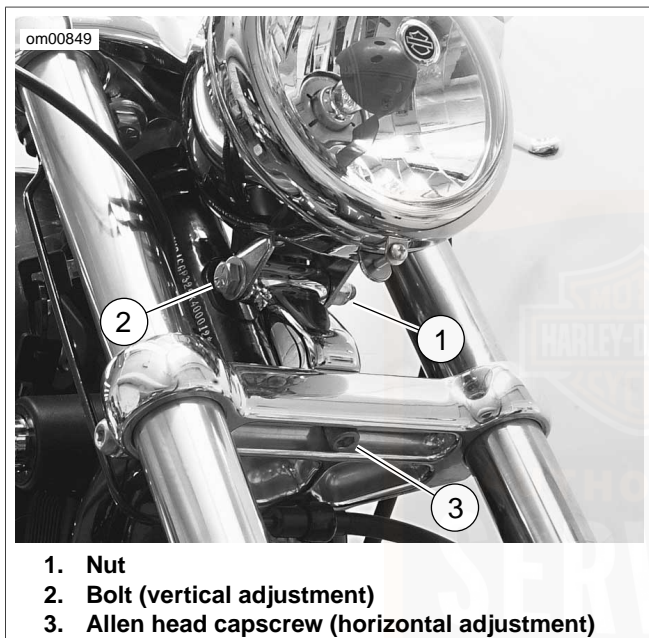

Figure 52. Headlamp Adjustment (XL 883C and XL 1200C)
1. See Figure 52. Loosen the Allen head capscrew (3).
1. See Figure 52. Loosen the locknut (1) for the vertical adjustment bolt.